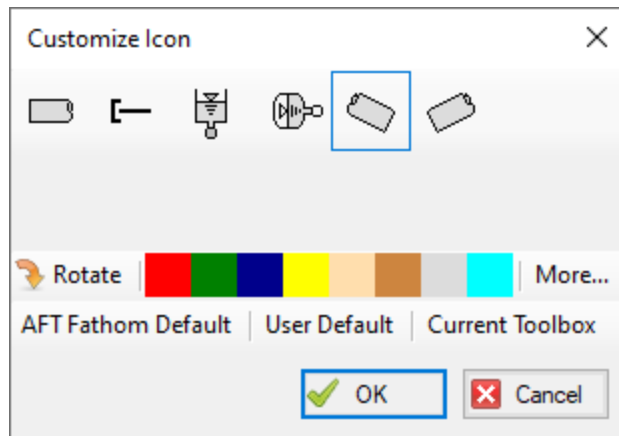

Figure 6: Use the Rotate button to obtain the preferred icon and rotation
9. Right click on J12 and select Customize Icon. Notice that you may need to use the Rotate button to get the preferred icon and rotation, as shown in Figure 6.